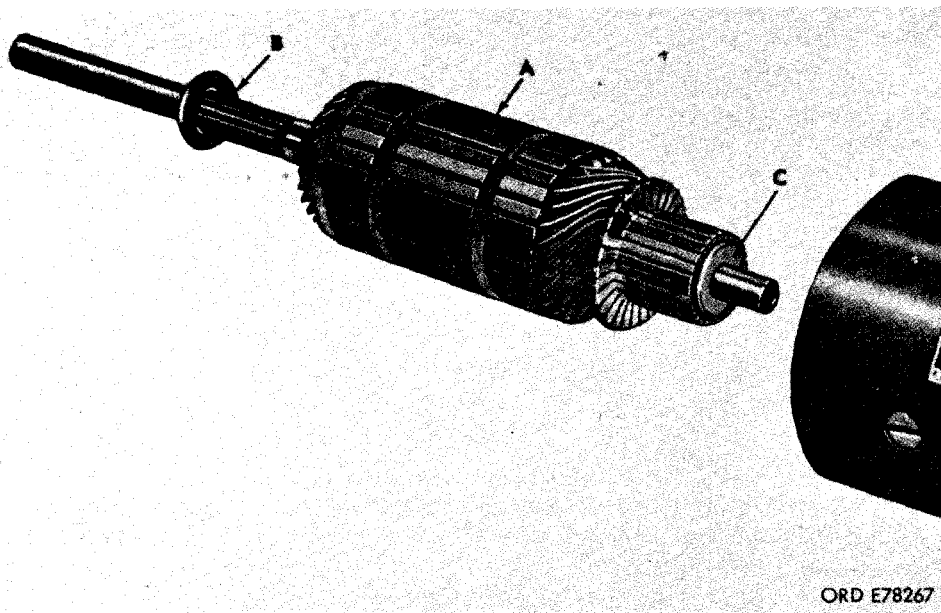

Figure 4-8. Removing armature.
d. Remove Armature. Refer to figure 4-8 and remove armature as follows. (A) Remove armature from frame. (B) Remove thrust washer from drive end of armature. (C) Remove thrust washer from commutator end of armature.